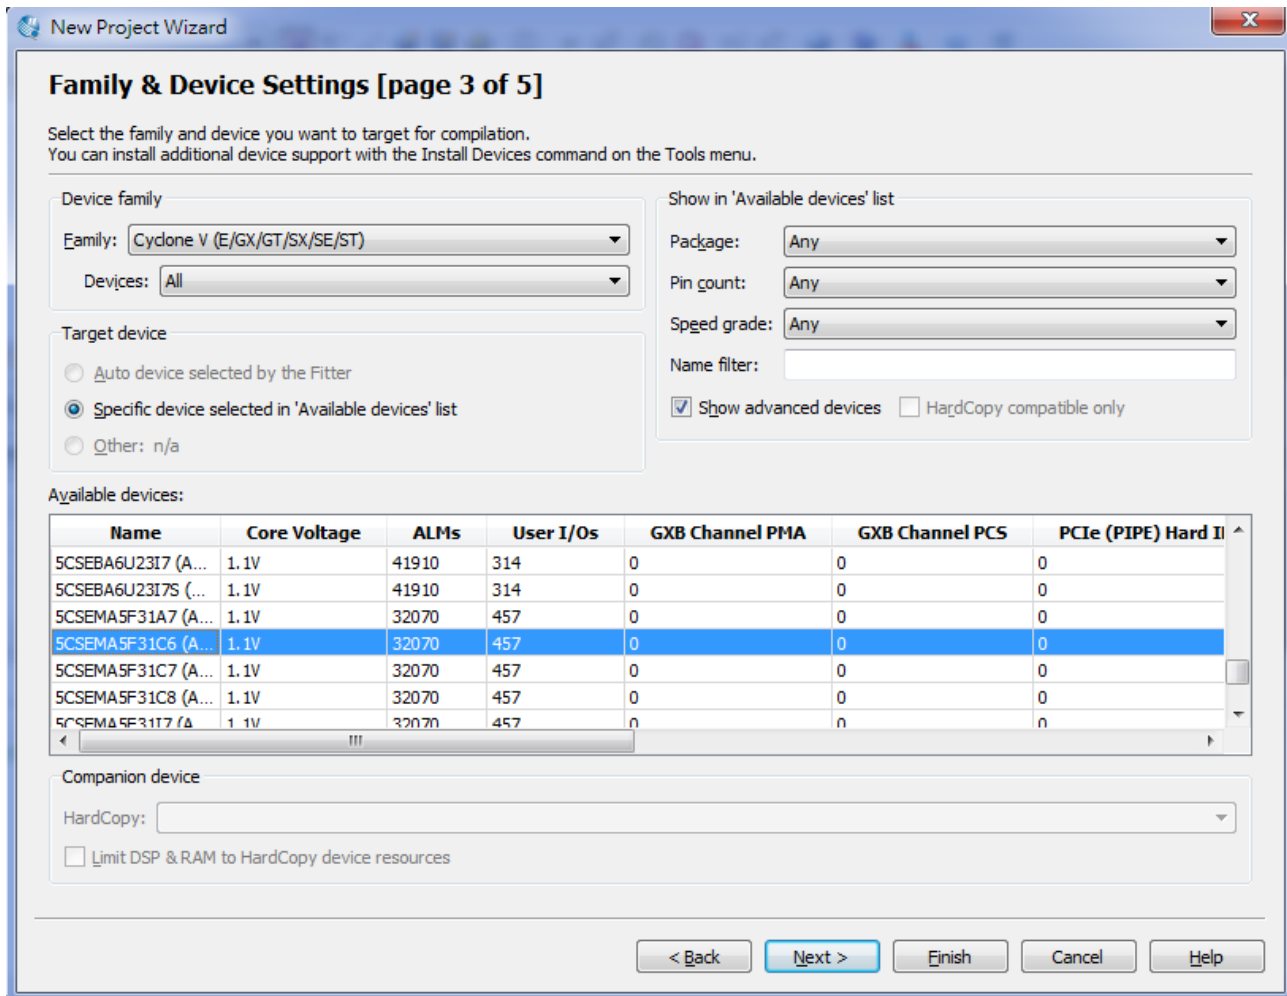

Figure 2-3 Specify the Device Example
g. You will assign a specific FPGA device to the design and make pin assignments. See Figure 2-3.